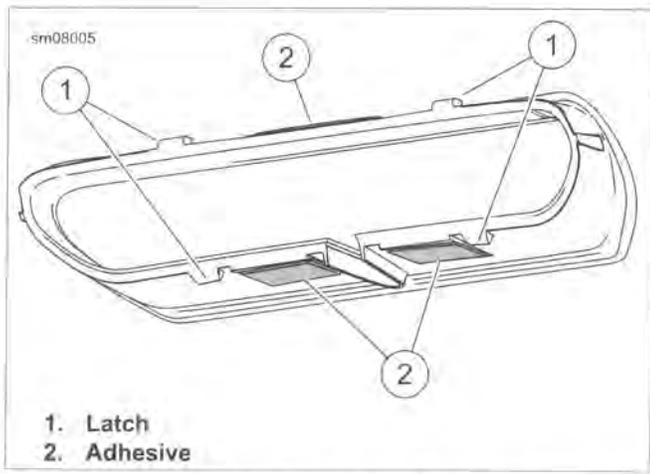

Figure 2-138. Outer Fairing Vent Bezel
2. See Figure 2-138. From inside fairing, use a putty knife to release adhesive (2) in three places.
3. Release latches (1). Remove bezel.